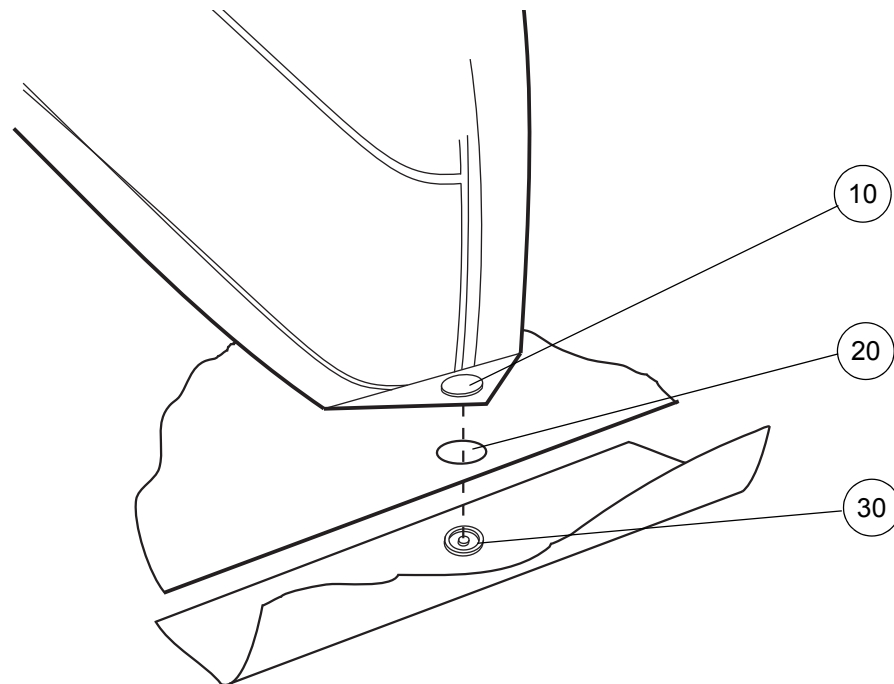

Figure 35 - Lower Manifold Pop Stud
- 8.3 Locate the mattress loop sheet (Fig 35, Item 20) over the manifold pop stud (Fig 35, Item 30) and connect the lower cell pop stud (Fig 35, Item 10) to the manifold assembly. If the pop studs will not connect, then turn the cell through 180 degrees, the connector(s) must remain adjacent to the manifold.
- 18.5 For each cell, locate the mattress loop sheet (Fig 35, Item 20) over the manifold pop stud (Fig 35, Item 30) and connect the lower cell pop stud (Fig 35, Item 10) to the manifold assembly.